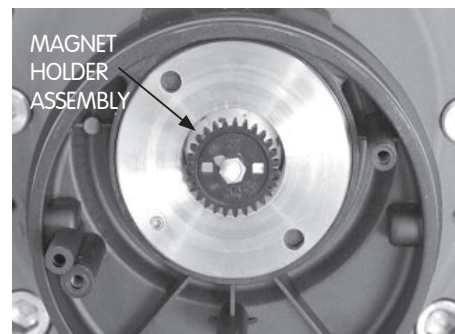

Figure 21. Magnet holder
- iii) Remove the magnet holder assembly from the meter [Figure 21].